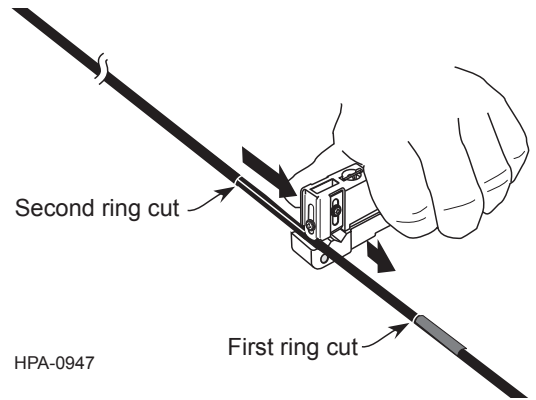

Figure 14
**Step 4:** Use the end of the Ideal® tool with a rounded blade installed and make a longitudinal cut between the first and second ring cuts made in Step 3 (Figure 14).